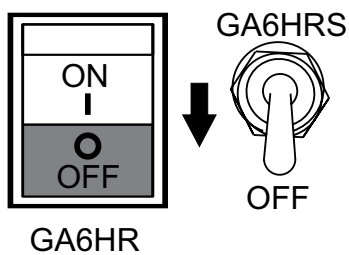

Figure 28. Operation Switch (OFF)
4. To shut-down the engine, place the generator's operation switch (Figure 28) in the **OFF** position).